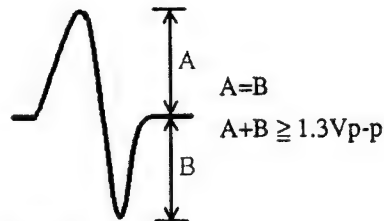

Fig. 8
3. When the TRACK FWD  $\blacktriangleright\blacktriangleleft$  key is pressed while observing the oscilloscope screen, the waveform shown in Fig. 8 can be observed instantaneously. Confirm that the amplitude in this state is 1.3 Vp-p or more and that the amplitude is nearly equal on positive and negative sides. Since the waveform appears only instantaneously when the TRACK FWD  $\blacktriangleright\blacktriangleleft$  key is pressed, repeat pressing this key until confirmation of the waveform is completed.